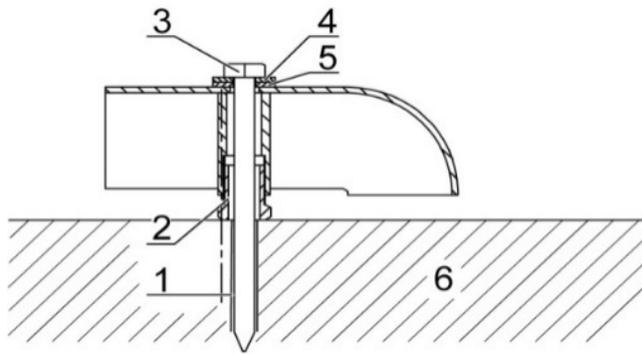

Figure 10 Fixing elements.
- ⇒ Loosely pre-assemble the CHM 8k on the concrete foundation with the supplied washers and fixing screws (see Figure 10).